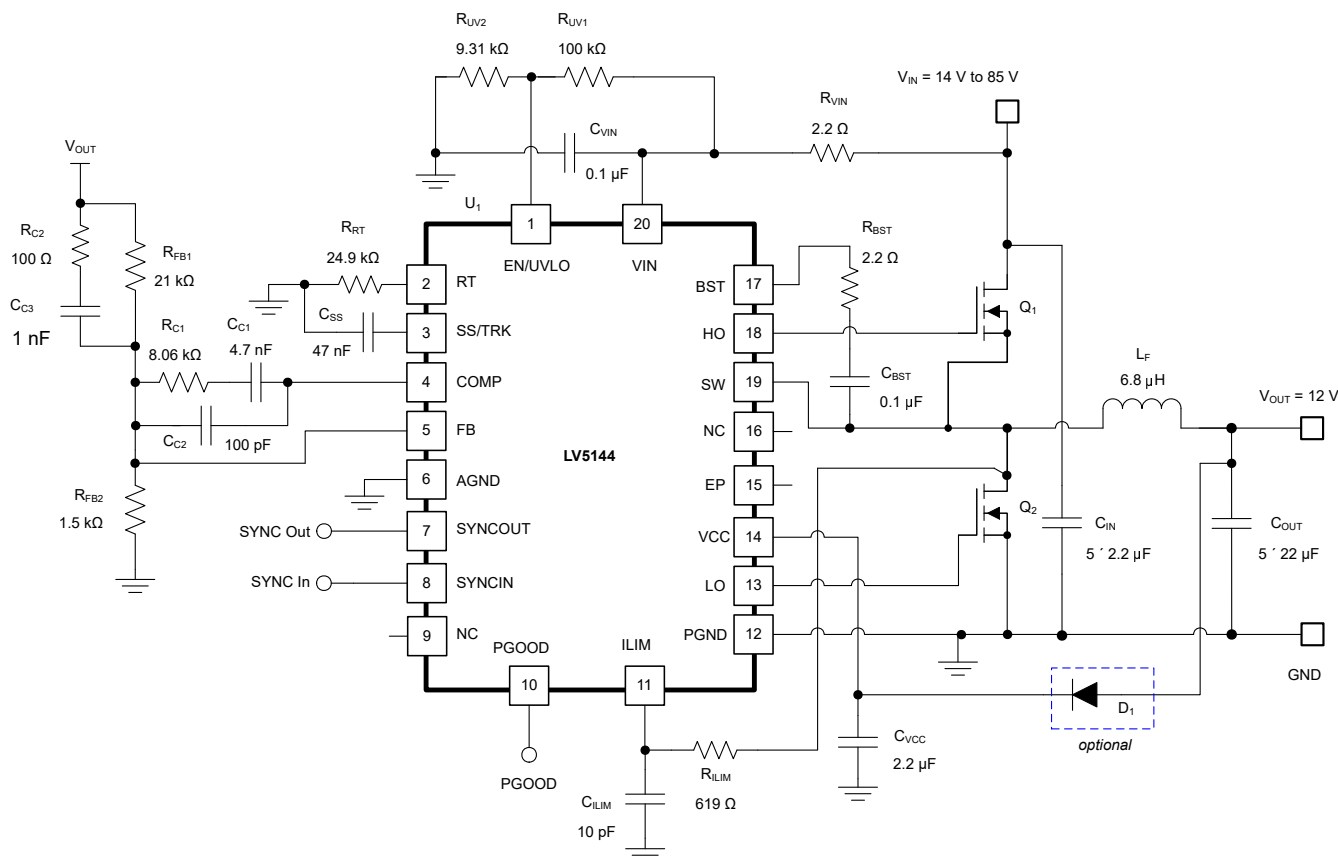

图 9-16. Application Circuit 2 With LV5144 48-V to 12-A Synchronous Buck Regulator at 400 kHz
图 9-16 shows the schematic diagram of a 400-kHz, 12-V output, 8-A synchronous buck regulator intended for 48-V telecom applications.
As shown in 图 9-16, a 2.2- $\Omega$  resistor in series with  $C_{BST}$  is used to slow the turn-on transition of the high-side MOSFET, reducing the spike amplitude and ringing of the SW node voltage and minimizing the possibility of  $C_{dv}/dt$ -induced shoot-through of the low-side MOSFET. If needed, place an RC snubber (for example, 2.2  $\Omega$  and 100 pF) close to the drain (SW node) and source (PGND) terminals of the low-side MOSFET to further attenuate any SW node voltage overshoot or ringing. Please refer to the application note Reduce Buck Converter EMI and Voltage Stress by Minimizing Inductive Parasitics for more detail.
- Placing a 2- $\Omega$  to 10- $\Omega$  resistor in series with the boot capacitor, as shown in Figure 9-16, slows down the high-side MOSFET turn-on transition, serving to reduce the voltage ringing and peak amplitude at the SW node at the expense of increased MOSFET turn-on power loss.